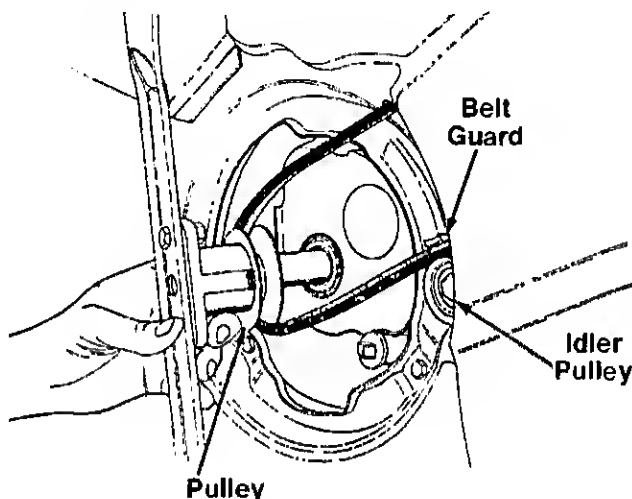

FIGURE 24.
7. Remove the belt from between the idler pulley and the belt guard on the idler pulley bracket. Refer to figure 24.
- C. Release the idler pulley so it falls down into position. Slide the belt in between the idler pulley and the belt guard on the idler pulley bracket as shown in figure 24.